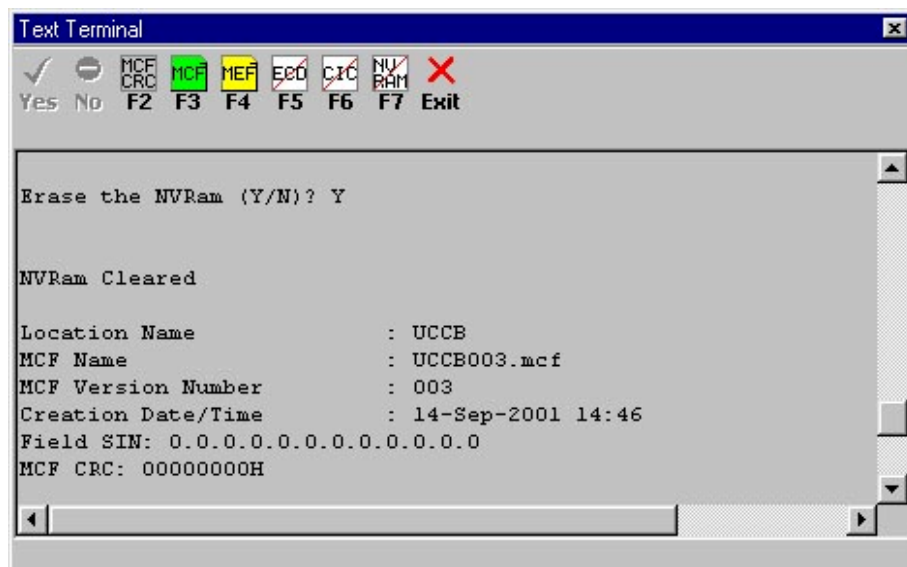

Figure 3-39
5. When the NVRAM has been cleared, the Text Terminal screen displays “NVRam Cleared” (refer to figure 3-39).